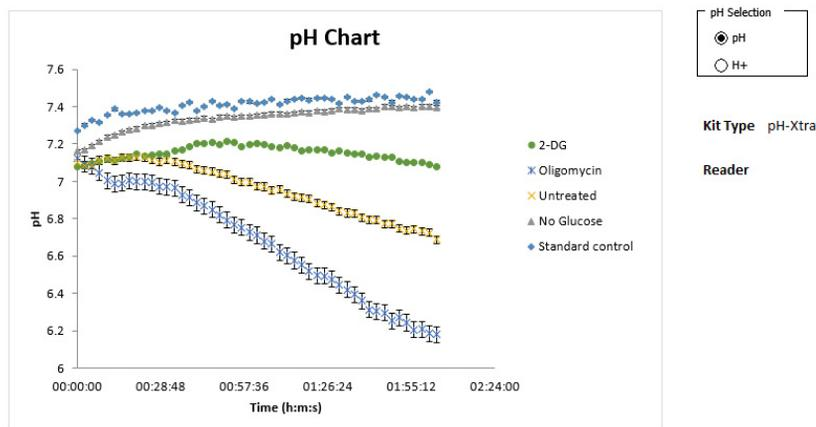

Figure 33. Graph Example: pH-Xtra pH Scale Data. Average pH scale signal curves of selected samples.
- Select/deselect a Group or Wells by selecting them in the Summary Group Table. See **Figure 33** on page 35. Greyed cells are deselected from the graph and analysis.